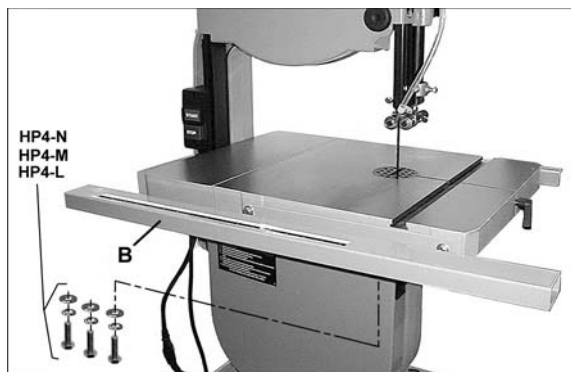

Figure 27
2. Install *guide rail* (B, Figure 27) to the slots in the front rail using three *M6x20 hex cap screws* (HP4-L), three *1/4" lock washers* (HP4-M) and three *1/4" flat washers* (HP4-N). Tighten with a 10mm wrench.
3. If *major adjustment* is necessary, loosen the guide rail screws (HP4-L, Figure 27), and slide the entire fence/guide rail together until the fence just contacts the blade. Re-tighten guide rail screws, and make further minor adjustment with the pointer.